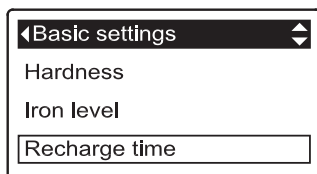

FIG. 40
3. Press the SELECT (O) button to display the Basic settings menu (See Figure 40).
7. Press the SELECT (O) button. The display will go back to the Basic settings menu (Figure 40).